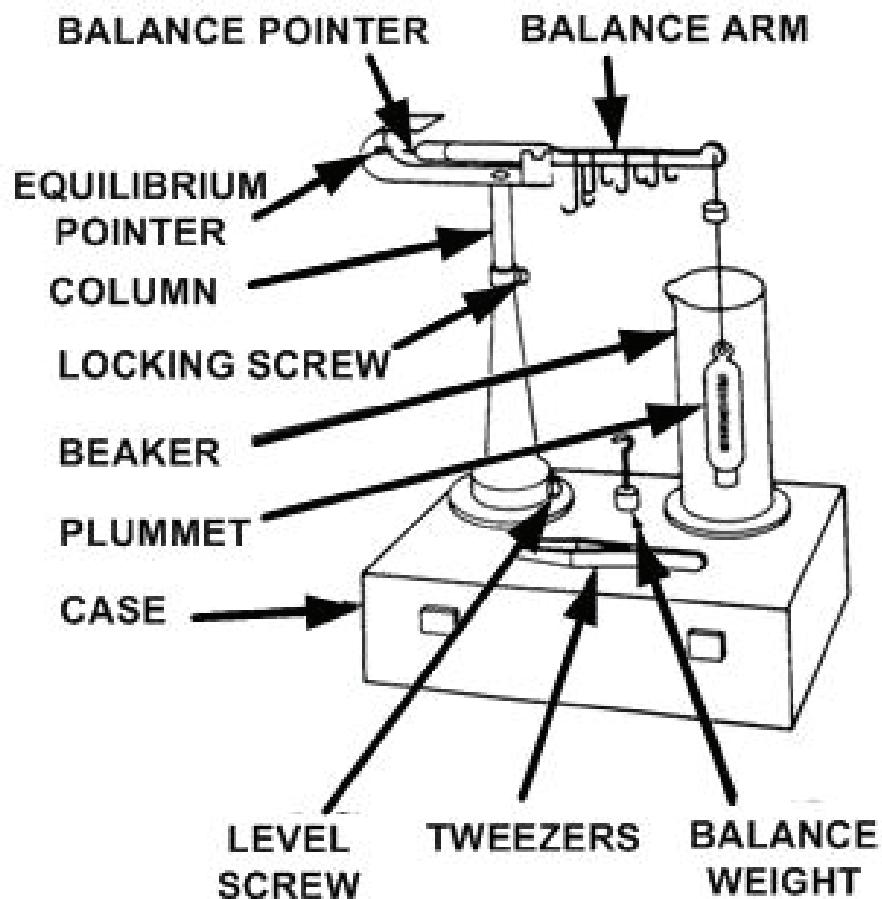

Figure 1. Specific gravity balance.
- d.** Place TI on a flat, level surface with balance arm (fig. 1) in place. If necessary, clean beaker and weights in console cleaner.
e. The adjustment screw in base should be oriented toward either front or rear of TI. Adjust column (fig. 1) to a convenient height.
- (1) Carefully place plummet (fig. 1) in center of left pan of balance.
- (2) Place weights totaling 15 g from weight set on opposite balance pan.
- (3) Add standard weights to appropriate pan to obtain a balance. After adding or subtracting values of standard weights used, if weight of plummet is not between 14.997 and 15.003 g, perform **b** (1) below.
- (4) Repeat technique of (1) through (3) above, substituting balance weight (fig. 1) for plummet. If weight of balance is not between 14.997 and 15.003 g, perform **b** (2) below.
- (1) Place balance weight (fig. 1) on hook at end of balance arm. If balance arm has an adjustable counterweight, adjust it until pointer is coincident with equilibrium pointer. If balance arm pointer not adjustable, adjust base leveling screw until pointers are coincident.
(2) Fill glass beaker (fig. 1) with distilled water and insert plummet (fig. 1) and thermometer.
The plummet must be suspended in the liquid being measured. This can be accomplished by adjusting height of column (fig. 1) and locking it in place with locking screw.